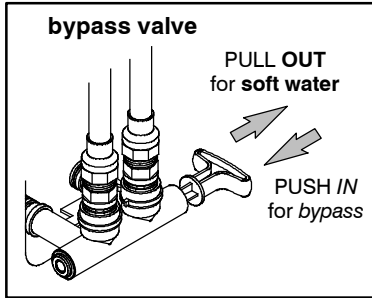

Figure 1
1. Push the bypass valve stem in for bypass. **Figure 1.**
21. SLOWLY MOVE THE BYPASS VALVE STEM TOWARD THE SOFT WATER POSITION, PAUSING SEVERAL TIMES TO ALLOW UNIT TO PRESSURIZE. **Figure 1.**